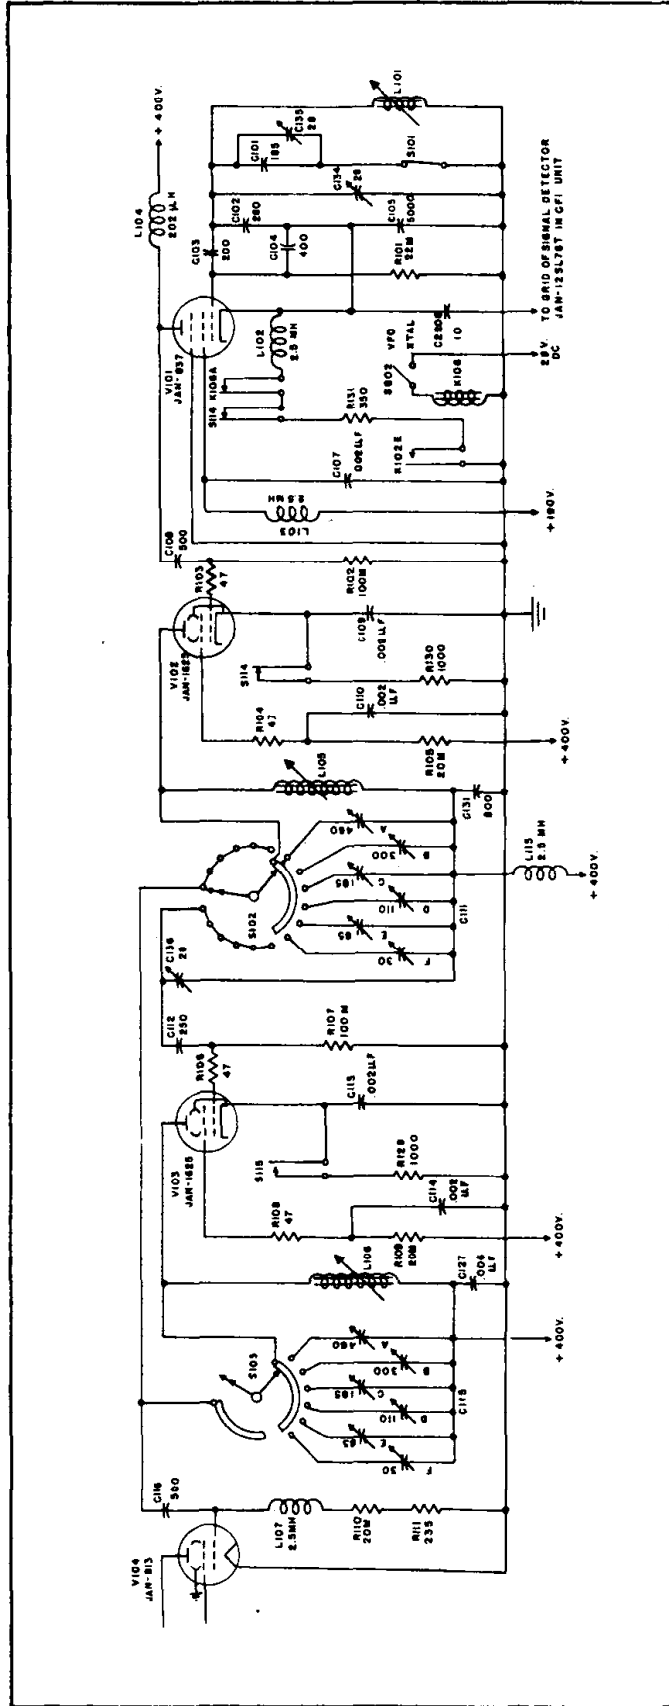

Figure 4-12. High Frequency R-F Circuits - VFO Operation - AN/ART-13A
(2) HIGH FREQUENCY R-F CIRCUITS.—The h-f oscillator employs a pentode Type JAN-837 tube, V101, in a variable frequency oscillator circuit. The oscillator operates within the frequency range 1000 kc to 1510 kc. This frequency range is covered in two bands, 1000 kc to 1200 kc, and 1200 kc to 1510 kc. The band of frequencies within which output is obtained, is dependent on the position of h-f oscillator range switch S101. Capacitors C101 and C135, (see fig. 4-12) are connected in the grid circuit of the h-f oscillator tube V101, by h-f oscillator range switch S101 which is operated by control A. Alternate positions of control A add or remove the padding capacitors C101 and C135. With control A in the 2.0-mc to 2.4-mc position h-f oscillator range switch S101 is closed, giving the maximum grid circuit capacitance